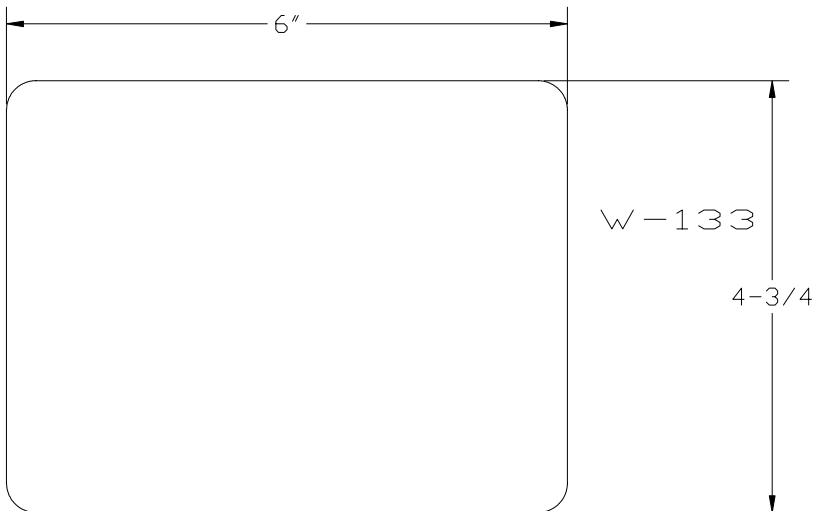

Figure 8.5.1
- 1) From the .040 Raw Stock(W-602), cut out eight Hinge Backing Plates (W-133). Four for each wing. Figure 8.5.1.